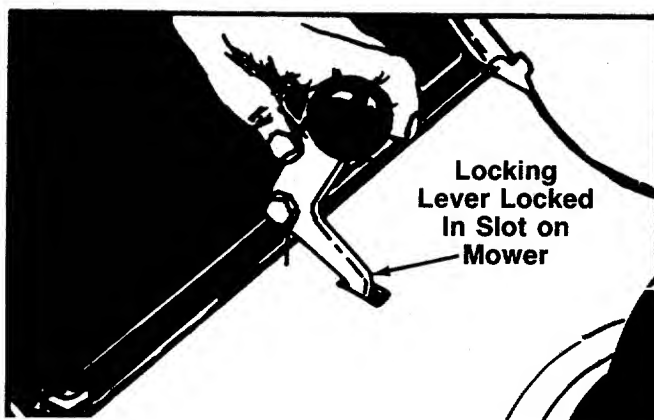

FIGURE 11.
3. Move the locking lever forward and hook in slot on mower. See figure 11.